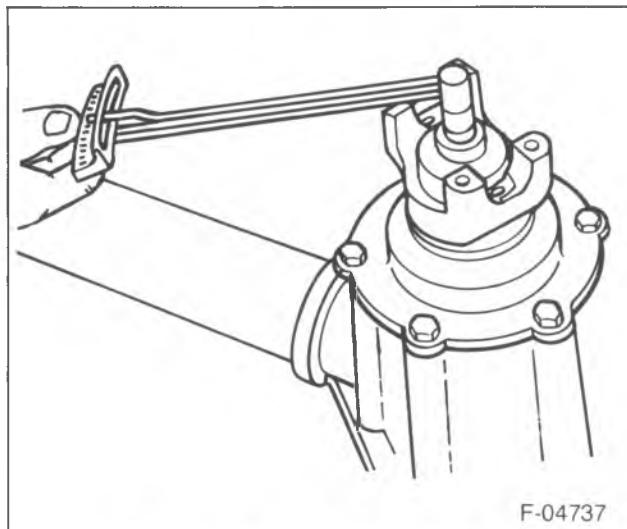

Figure 3—Checking Pinion Preload
- 11. Ring gear (14) from the differential.
- 13. Differential side gears (29) and thrust washers (30).
- 14. Differential pinion spider (33).
- 15. Differential pinion gears (32) and thrust washers (31) from the spider (33).
- Drive pinion bearing preload (figure 3).